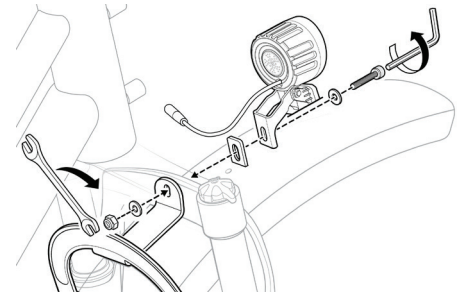

Figure 1 Install lock mount.
- a. Place a flat washer on the 38 mm replacement bolt and pass through the headlight, front fender mounting point, and the fork bridge (see Figure 1).